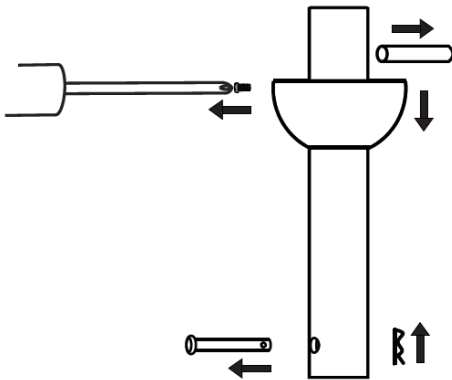

Fig. 5
1. Remove the ball joint and dowel pin by loosening the set screws from the down rod . **Fig.5**